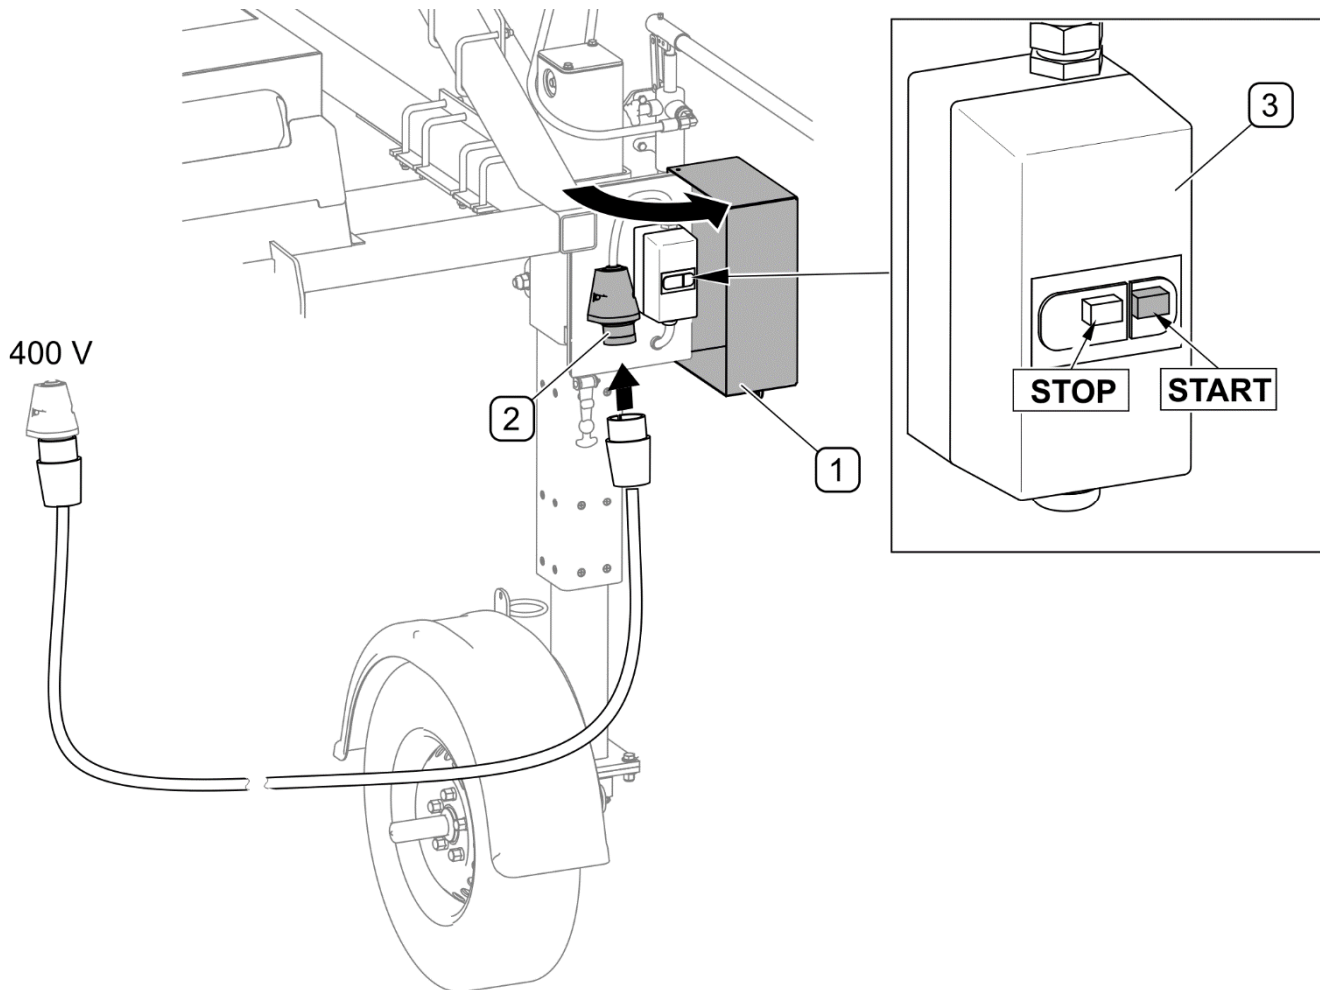

FIG. 4.37 **Connecting the machine to the mains**
- connect the sand spreader to the mains (FIG. 4.37),
- turn on electric motor using switch (3) on the drive wheel column (FIG. 4.37),